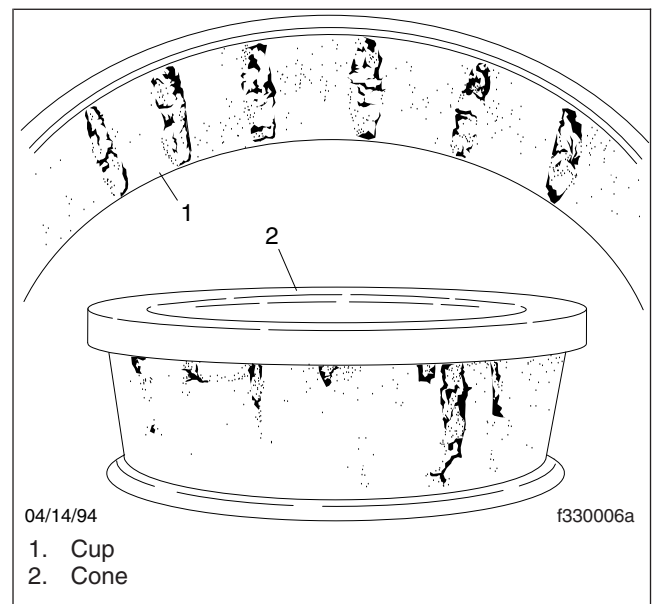

Fig. 3, Spalling (Flaking) of Wheel Bearing Assembly
3. Remove all the old grease or oil from the surfaces of the wheel bearing cups. Inspect the wheel bearing cups for cracks, wear, spalling, or flaking. See Fig. 3. Replace the cups if damaged in any way. For instructions, see Subject 120 or Subject 170.
- Spalling (flaking) of the bearing cup, roller, or cone surfaces. See Fig. 3.